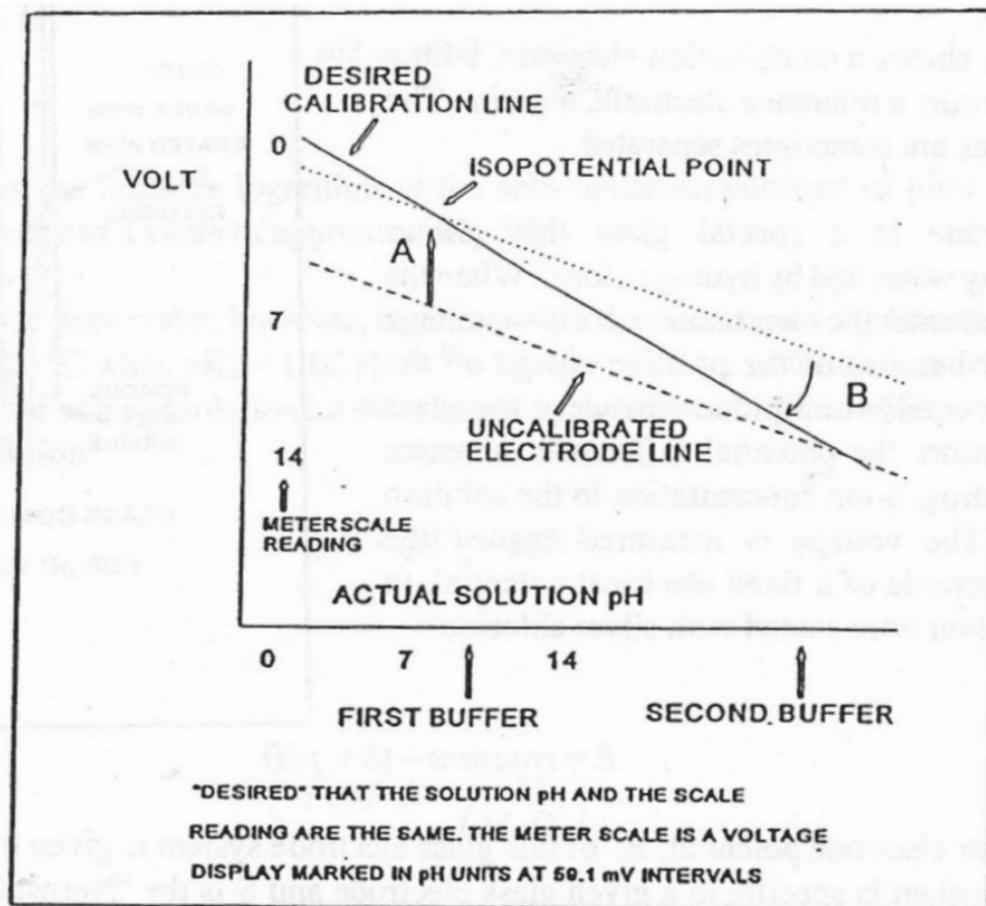

Figure 2: pH Meter Calibration
A set of electrodes will give a voltage reading that depends not only on the pH of the sample, but also on the constant in the above equation and on the exact value of the Nernst slope. Since these quantities vary from electrode to electrode, each set must be calibrated with solutions of known pH values, known as pH buffer solutions. The meter will display the correct pH value of the sample only if the electrode response follows the line shown in **Figure 2** below.
Electrodes that are not calibrated will have an incorrect slope and an incorrect intercept, shown by the dotted line **A** in **Figure 2** on page 3. The process of a calibration consists of adjusting the electrode response line to the ideal line, in two steps:
1. The electrodes are placed in the first buffer solution, which has a specific known pH value. The calibrate control on the meter is adjusted to make the display read the pH of the buffer solution. This process corresponds to the movement of the dotted line **A** shown in **Figure 2** on page 3 toward position **B**. In older pH meters, the adjustment is manual, but it is frequently done by a microprocessor on modern pH meters.